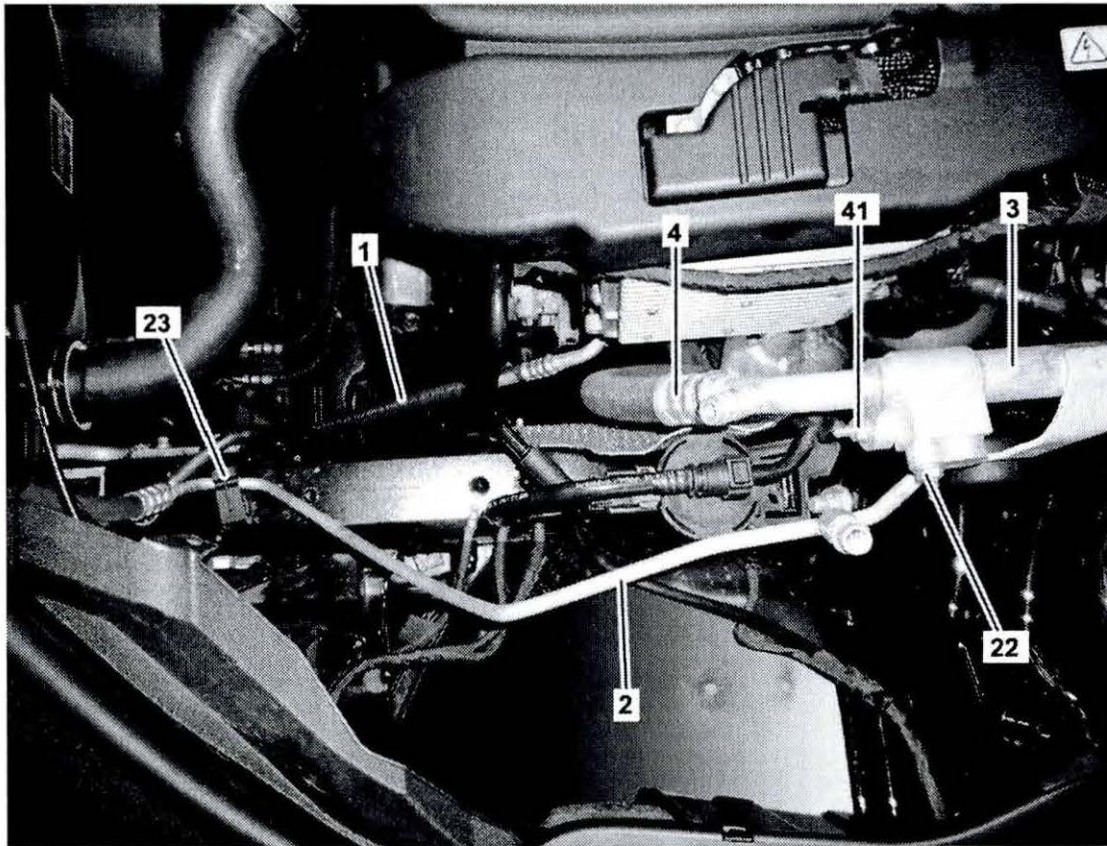

Figure 1
1. Remove nut (41, Figure 1).
- Torque nut (41) to 8 Nm when installing.
2. Disconnect refrigerant line (4, Figure 1) from refrigerant line (3).
3. Remove nut (22, Figure 1).
- Torque nut (22) to 8 Nm when installing
4. Disconnect condenser refrigerant line (2, Figure 1) from mounting clip (23).
5. Disconnect condenser refrigerant line (2, Figure 1) from refrigerant line (3).
Refer also to Figures 1 and 7 for more views of condenser components and refrigerant lines.
20. Install new caps on A/C service valves of new refrigerant lines (2, 4, Figure 1).